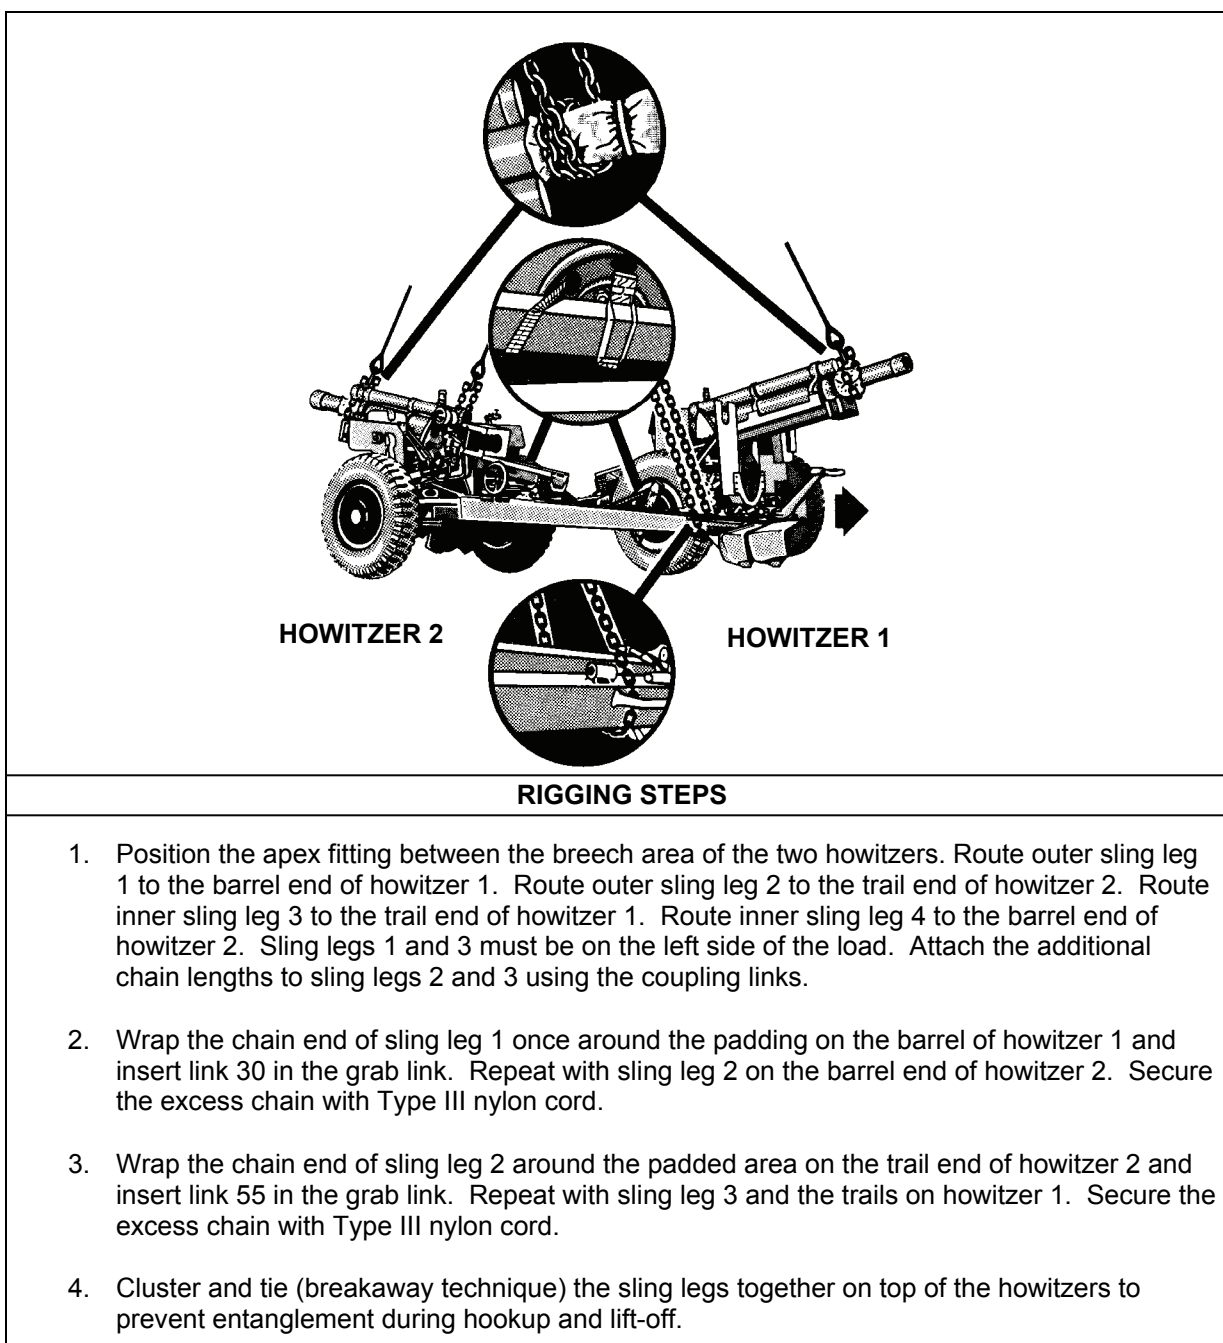

Figure 6-12. Two M101A1 105-MM Howitzers
- **Rigging.** Rig the load according to the steps in Figure 6-12.